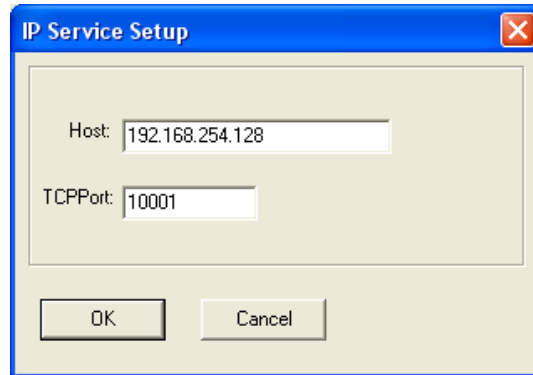

Figure 6.8 – IP Service Setup Dialog Box
- c. Click the **Add IP** button. The **IP Service Setup** dialog box appears (Figure 6.8).